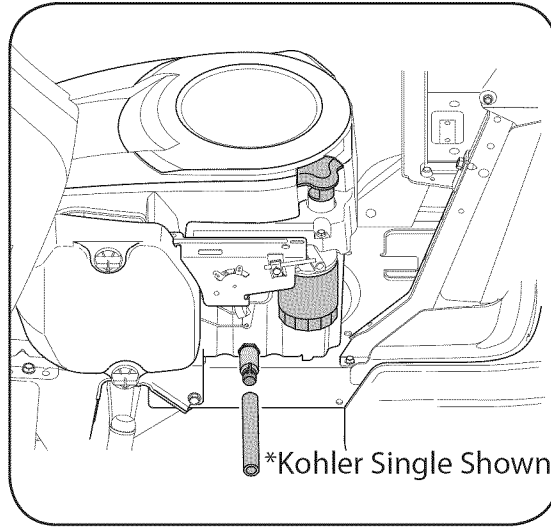

Figure 20
1. Pop open the protective cap on the end of the oil drain valve to expose the drain port. See Figure 20.